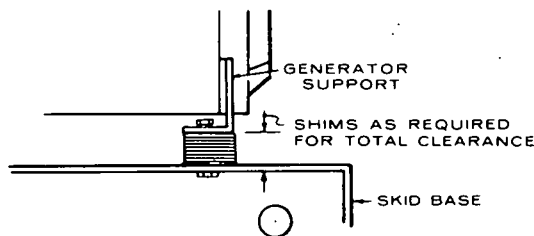

FIGURE 8
- Remove the jackscrews and reinstall as mounting bolts through generator support, shims and skid base. Secure and lock the mounting bolts in place (Figure 8).